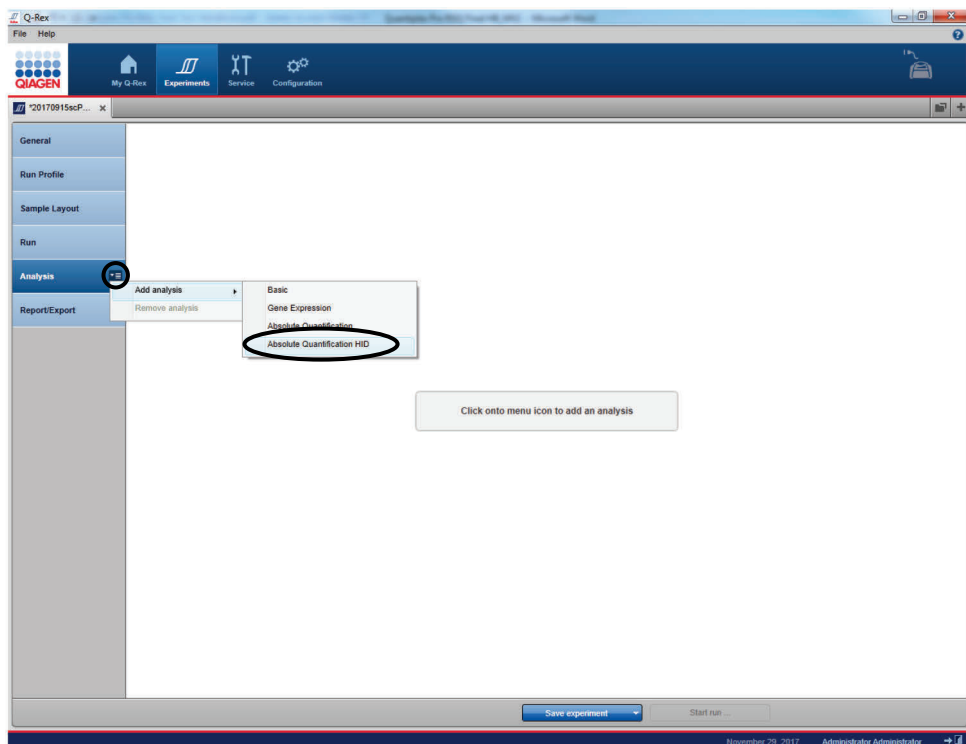

Figure 30. Selecting "Absolute Quantification HID" in Q-Rex.
- Add analysis method by clicking on the selection menu within the "Analysis" step marker on the left side, followed by "Add analysis" and then selecting "Absolute Quantification HID" (Figure 30).